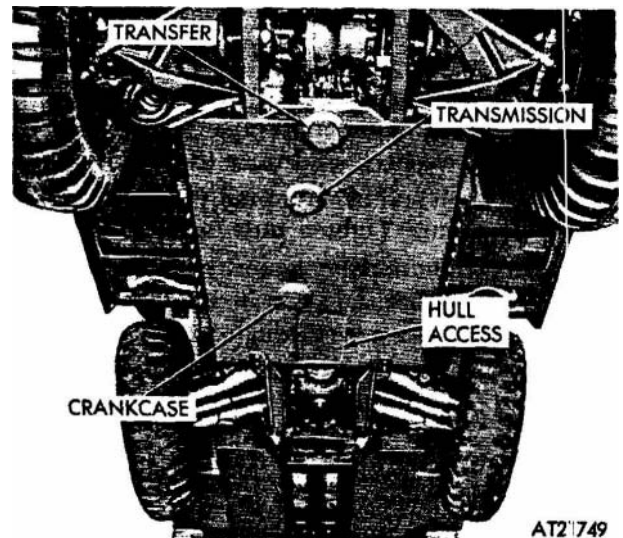

Figure 2-97. Hull drain access cover ports.
(1) Open and secure engine cover (refer to TM 9-2320-242-10), and remove surge tank pressure cap.
(2) Open hull access cover ports and place a suitable container under oil cooler draincock, or provide for adequate run-off (fig 2-97).
(21) Fill cooling system with coolant for correct climatic conditions (refer to TB 750-651).
(22) Install surge tank pressure cap.
(23) Start engine, allow to reach temperature of approximately 170 degrees F, and recheck coolant (refer to TM 9-2320-242-10).
(24) Close and secure engine cover (refer to TM 9-2320-242-10).
(25) Install hull bottom drain plug (fig 2-97).
(b) Open hull bottom drain plug and place a suitable container under oil cooler draincock, or provide for adequate run-off (fig 2-97).
(h) Install hull bottom drain plug (fig 2-97).
- (9) Fill cooling system (refer to para 2-70c), start engine (refer to TM 9-2320-242-10), and check for leaks. Stop engine.
- (10) Install hull bottom drain plug (fig 2-97).
- (11) Close and secure engine cover (refer to TM 9-2320-242-10).